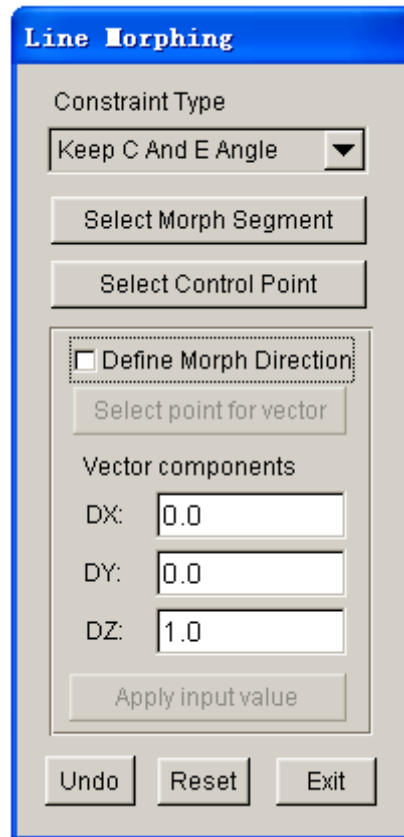

Figure 6.5.2 Line Morphing dialog box
2. After a line is selected, the LINE MORPHING dialog box as illustrated in Figure 6.5.2 is displayed.